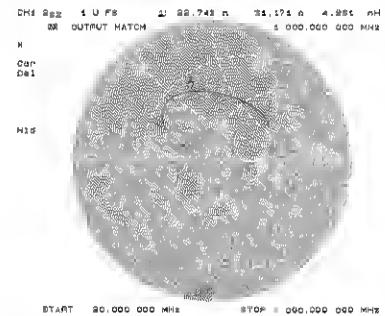

Figure 11. Complex impedance measurement.
2. Display the output impedance by measuring S22 in Smith chart format. Figure 11 shows amplifier output impedance. Markers used with this format display  $R + jX$ . In fact, the reactance is displayed as equivalent capacitance or inductance at the marker frequency.